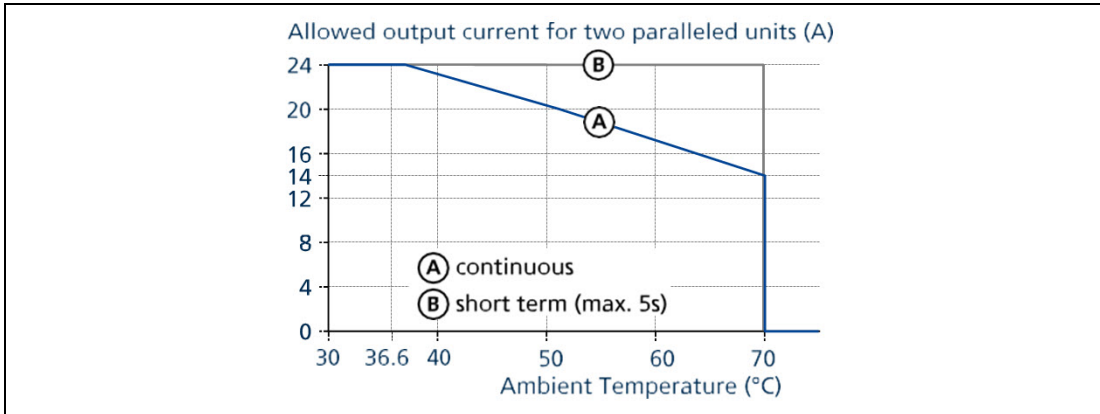
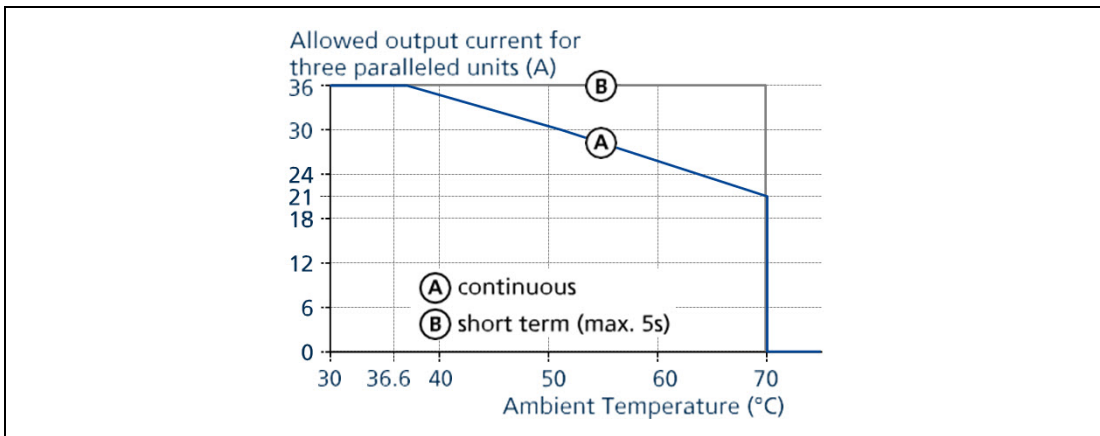

Figure 26.6 Output current vs. ambient temp. for two paralleled units
Figure 26.7 Output current vs. ambient temp. for three paralleled units
- Observe the temperature derating requirements of Figure 26.6 and Figure 26.7 for N+1 redundancy applications.